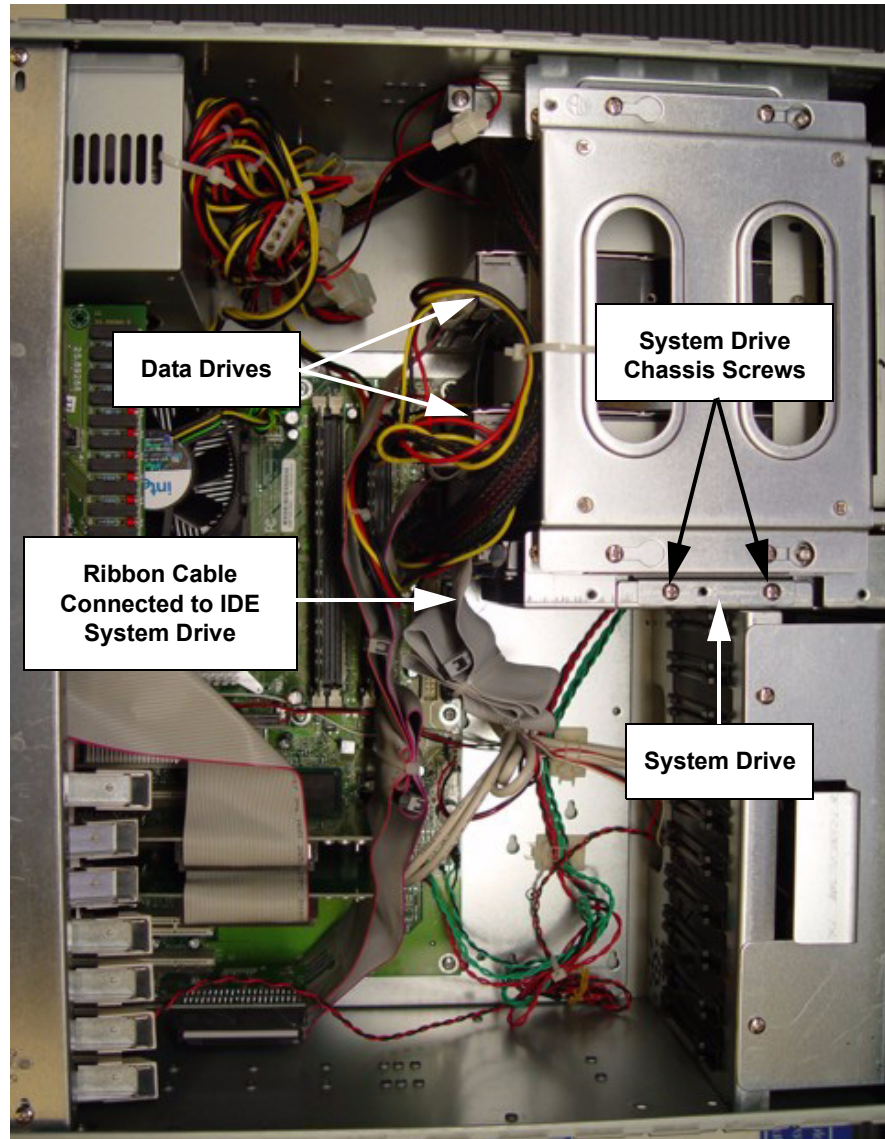

Figure 8: Location of System and Drive Drives
5. Locate the two internal data drives (see Figure 8 on page 33).
8. Locate the system drive inside the DVN (see Figure 8).
9. If the system drive has a 1 1/2-inch wide ribbon cable connecting the drive to the motherboard, the DVN has an IDE system drive (see Figure 8). Disconnect both ends of the ribbon cable (from the system drive and the motherboard).
15. Insert and secure the SATA drive with its new bracket into the same location where the old system drive was removed. See Figure 8.